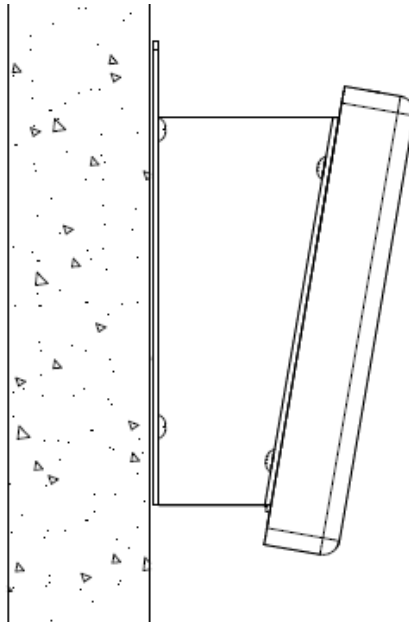

Figure 5 - Wall Mount Bracket, Installed
3. Complete the installation by mounting the sign on the wall. Refer to Figure 5.
3. Mount the sign on the wall. Refer to Figure 5.